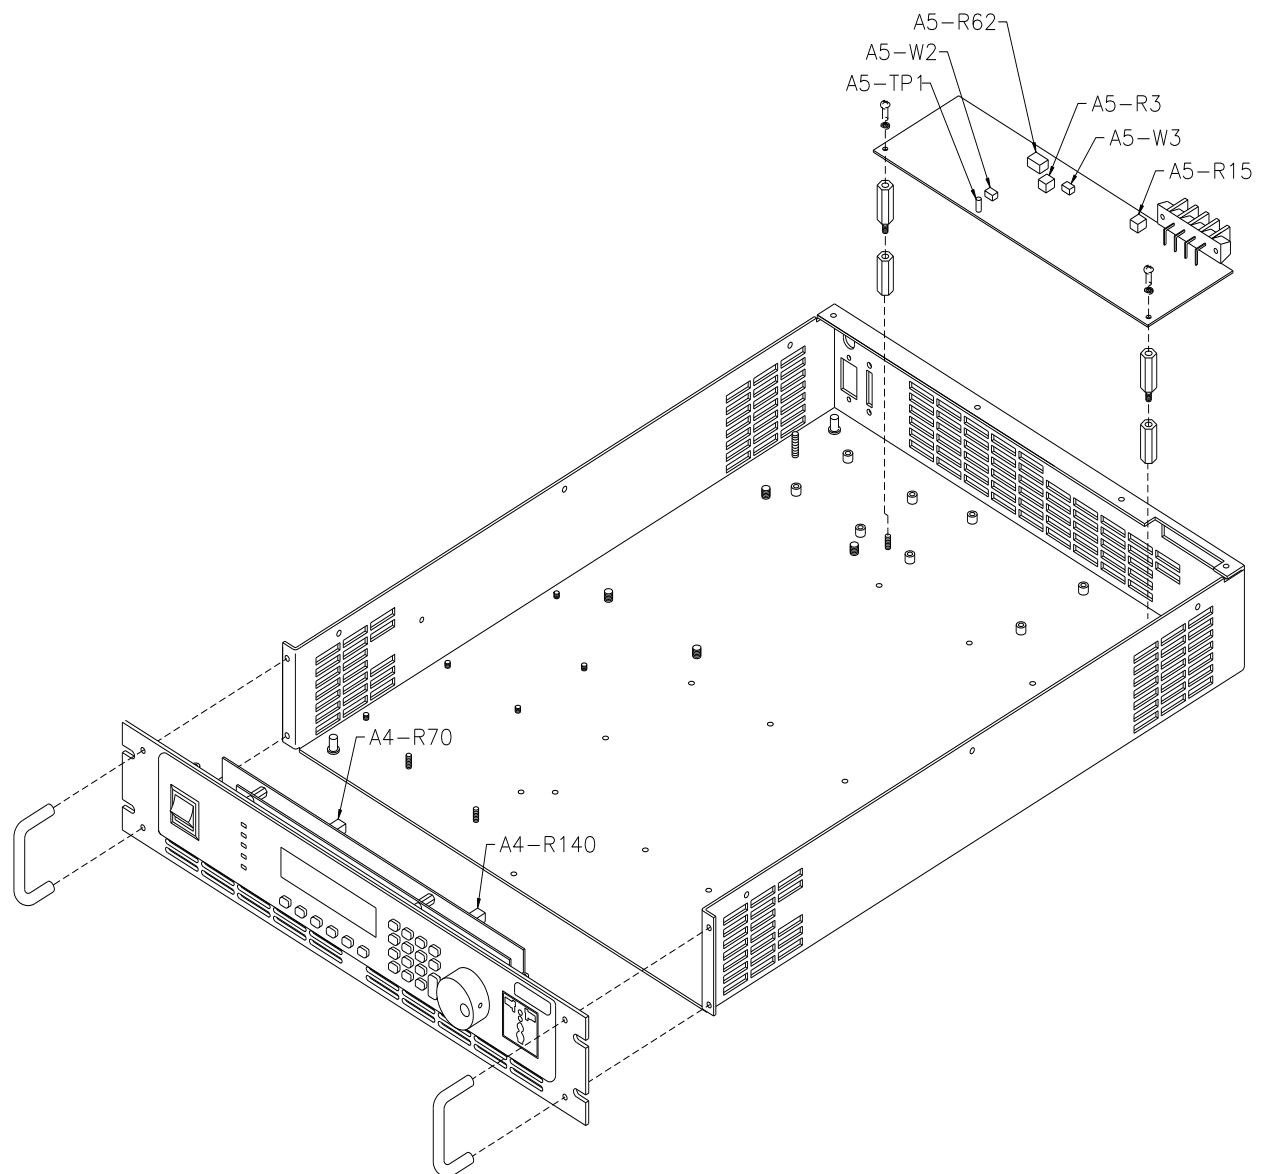

Figure 6-1: Internal adjustment locations.
4. Close the power source output relay and adjust R70 on the Controller (A4) for zero ± 5 mV. See Figure 6-1 for pot location on the controller board.
3. Program 10.0 volts AC. Adjust R140 on the controller (A4) for an output of 10 ± 0.2 VAC. See Figure 6-1 for pot location on the controller board.